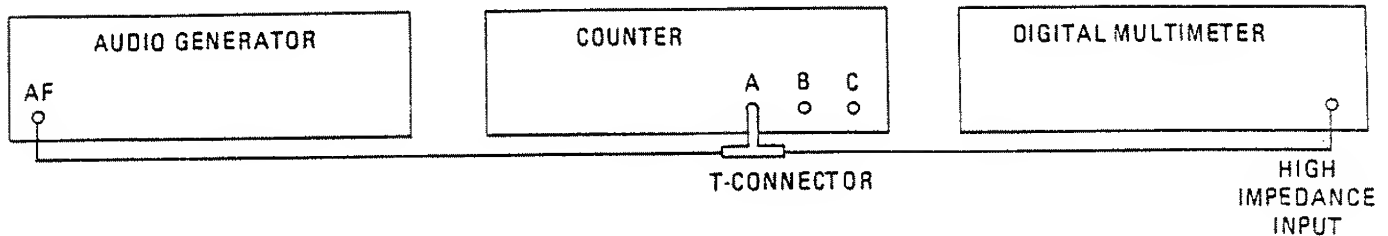

Fig. 6.9B Connections for Input A Sensitivity PVP (II)
- (1) Connect the test equipment as shown in Fig. 6.9B.